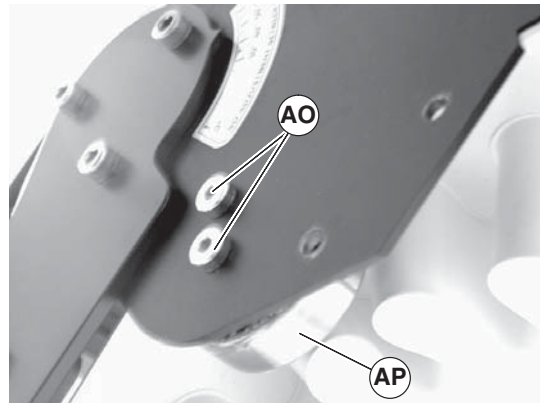

Figure 86
- Remove screws (Figure 86, item AO) and remove roller bearing (AP).